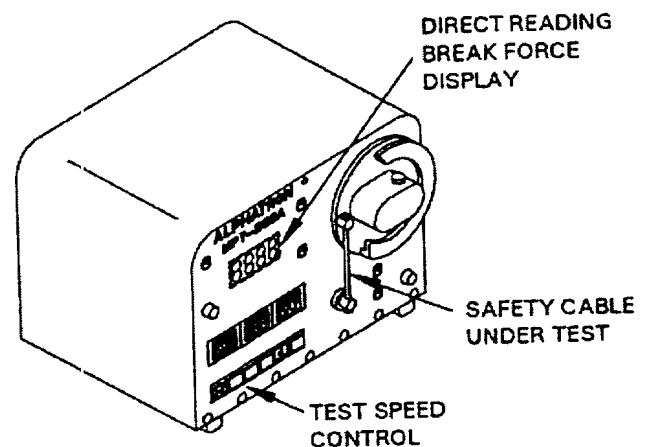

Figure 35. Electronic Safety Cable Pull Tester
62. **TOOL CALIBRATION VERIFICATION WITH AN ELECTRONIC TESTER.** It may be required in some applications to use an electronic pull tester to test safety cable to destruction. If this is required, the tester (Figure 35) should have digital readout capability, and a two (2) inch/minute pull rate.